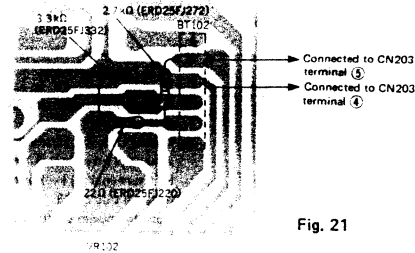

Fig. 21
1. Solder 3 resistors to the driving circuit P.C.B. (Refer to Fig. 21)
3. Connect CN203 terminal ⑤ to BT102 terminal ⑤ and CN203 terminal ④ to BT102 terminal ④, using lead wire with clip, etc.
4. Connect the DC voltmeter between CN102 terminals ③ and ④.